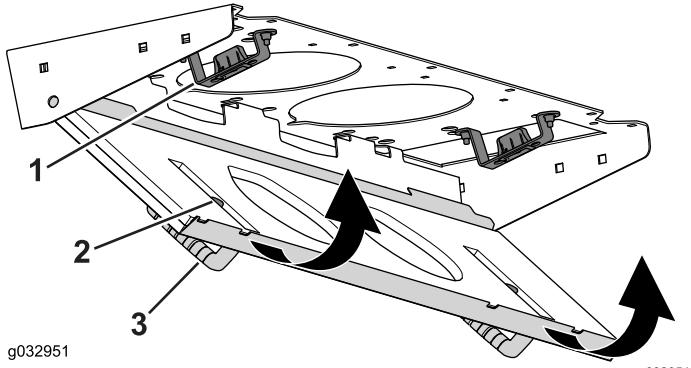

Figure 137
4. Rotate the filter screen around the tabs until the latch locks into the latch-mount assembly (Figure 137).